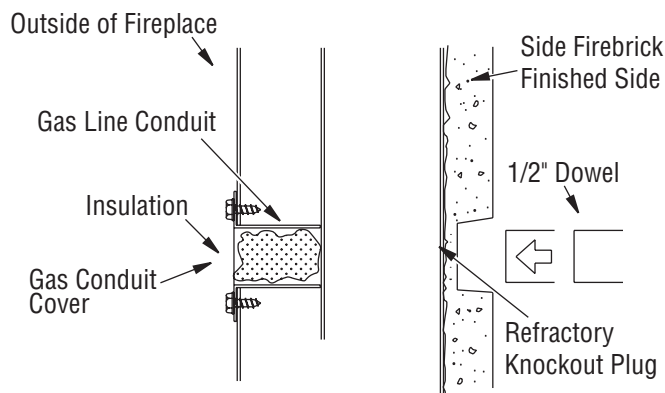

Figure 22 - Gas Line Knockout
1. Remove knockout indentation on refractory or firebrick wall located above refractory hearth floor. Knockout indentation must be firmly tapped with any solid object, such as a 1/2" dowel, until it is released. Remove fragmented portions of refractory (see Figure 22, page 14).